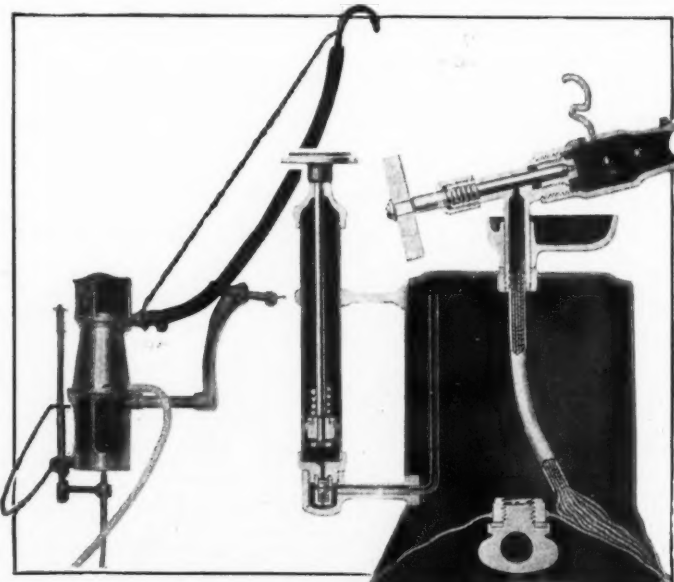

Fig. 3—Neverout radiator heater. Fig. 4—Westinghouse torch
**Neverout Garage Type Radiator Heater**—The Rose Mfg. Co., 910 Arch street, Philadelphia, Pa., make a device for preventing the freezing of radiator water during the winter. The accessory is made in a road and a garage type, the latter being shown at Fig 3. It consists of a Bunsen burner which may be connected to a city-gas main or outlet and which is surrounded by screen work, so that inflammable vapors cannot pass away from the burner after having been ignited by the flame. Above the burner, there is a boiler which connects to the radiator drain hole, so that the coldest water—which is at the bottom of the radiator—flows to the boiler, in which it is heated and whence it leaves through the rubber-covered tube attached to the boiler top and which can be hooked with its rounded mouth in the filler hole. The device is perfectly safe and effective.